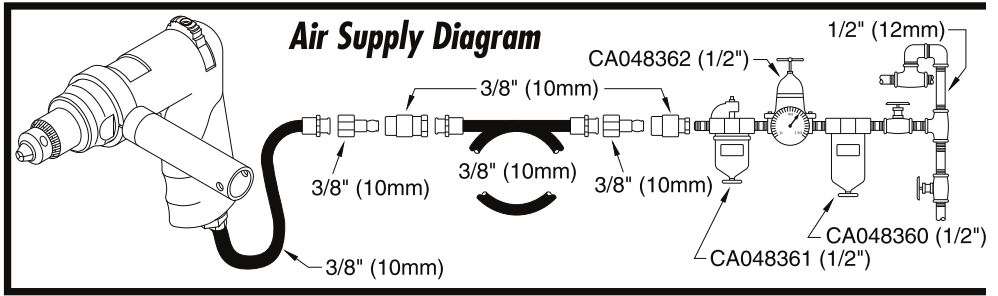

Fig. 01
- Connect device as shown in Fig. 01.
- To operate tool in reverse rotation, push the lever (B) in reverse direction as sign showing.
- To start the machine, pull the trigger (A). Machine speed is increase by increasing pressure on the trigger. Release the trigger to stop.